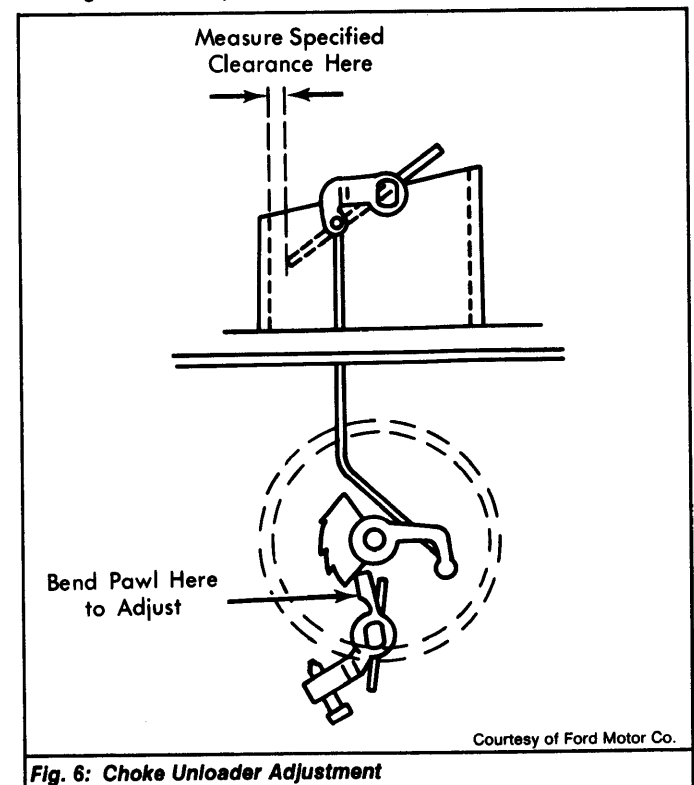

**Fig. 5: Fast Idle Cam Adjustment**
1) Loosen choke thermostat housing screws. Rotate housing 45 degrees counterclockwise (rich) to close choke valve. Tighten choke housing screws. See Fig. 5.